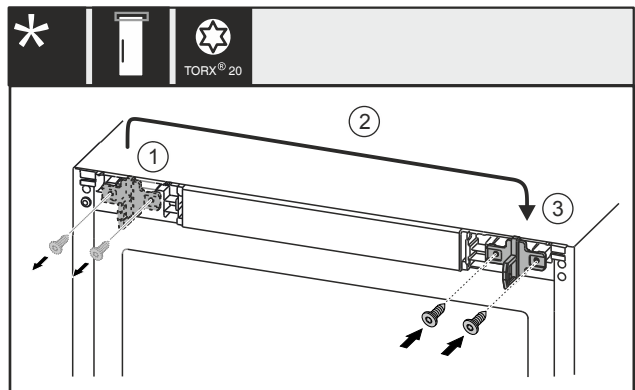

Fig. 25 With electric lock\*
- ▶ Use screwdriver to unscrew the screws Fig. 25 (1)\*
- ▶ Move the locking hook Fig. 25 (2) to the opposite side.\*
- ▶ Use screwdriver to place the screws Fig. 25 (3) and tighten them.\*